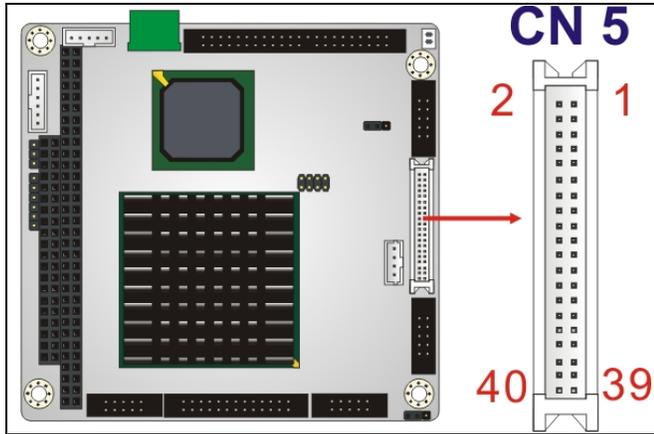

Figure 3-18: TTL Connector Locations
- CN Location:** See **Figure 3-18**